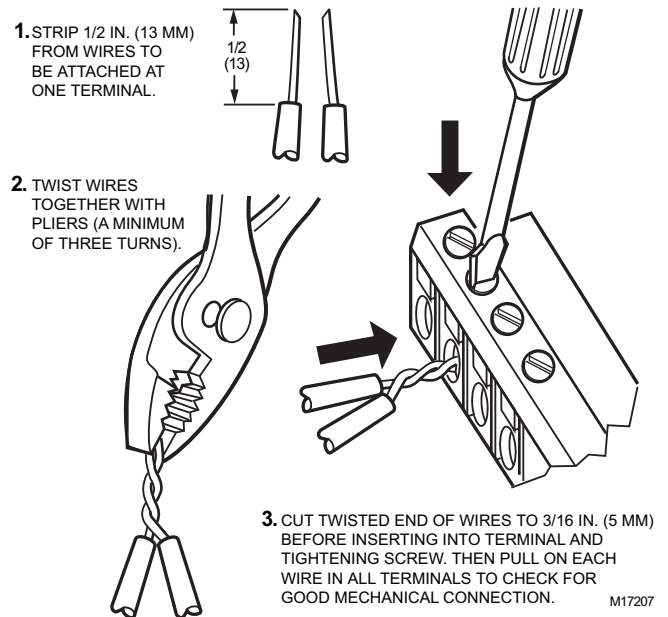

Fig. 12. Attaching two or more wires at terminal blocks.
NOTE: When attaching two or more wires to the same terminal, other than 14 AWG (2.0 sq mm), be sure to twist them together. Deviation from this rule can result in improper electrical contact (see Fig. 12).
3. If two or more wires are being inserted into one terminal location, twist the wires together a minimum of three turns before inserting them (see Fig. 12).
Fig. 14. Controller wiring diagram (model PVB6438NS shown) for typical VAV application, using the TR23 wall module and a C7770A air temperature sensor. (For note 2, refer to Fig. 12.)